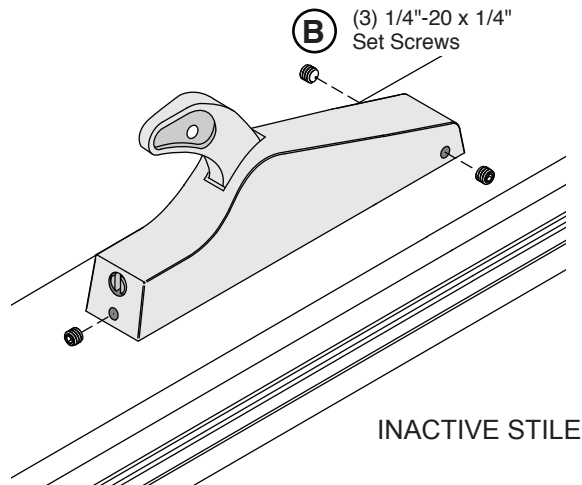

FIG. 8
3. Secure the Inactive Body and Arm Assembly using (3) **(B)** 1/4"- 20 x 1/4" Set Screws. (Fig. 8)